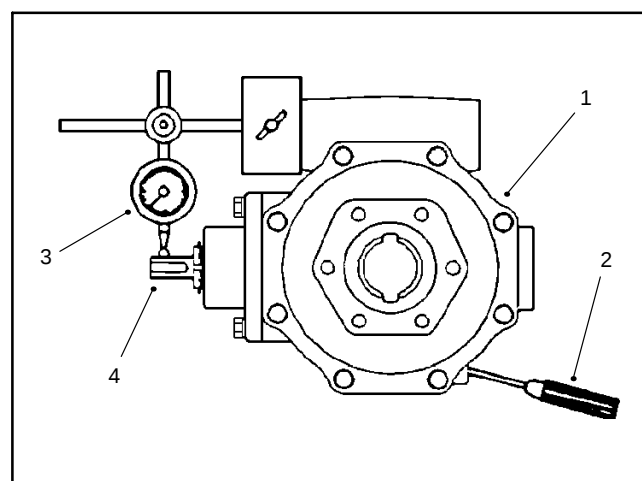

Figure 81
11. Insert a screwdriver through the drain plug hole to hold ring gear and measure the pinion gear to ring gear backlash (Fig. 81).